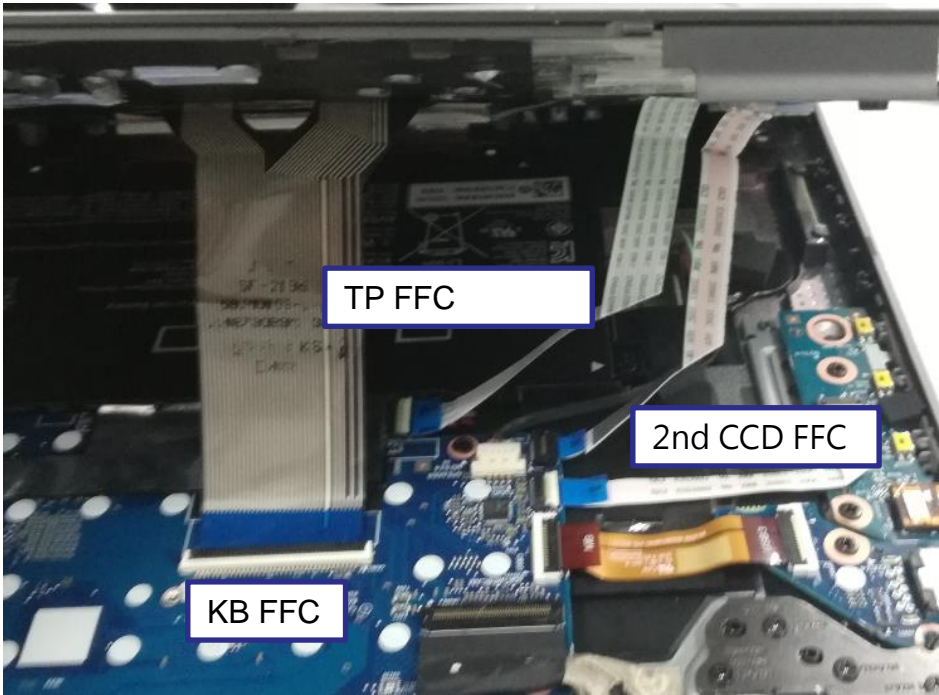

Fig 1
- 1. Disconnect 2nd CCD FFC,TP FFC,KB FFC from main board(Fig 1, 2)